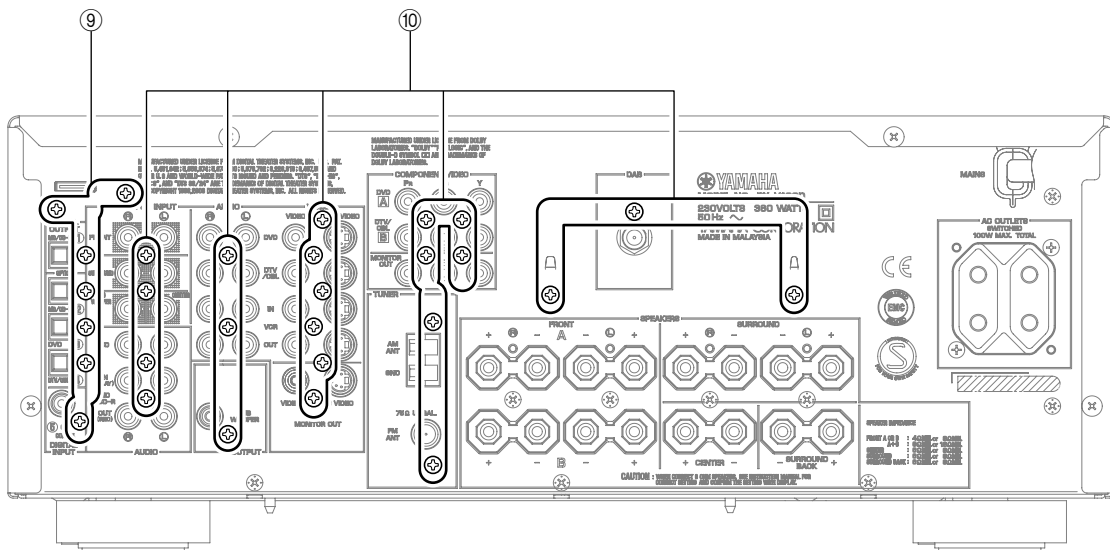

Fig. 3
- b. Remove 7 screws (⑨). (Fig. 3)
- b. Remove 22 screws (10). (Fig. 3)